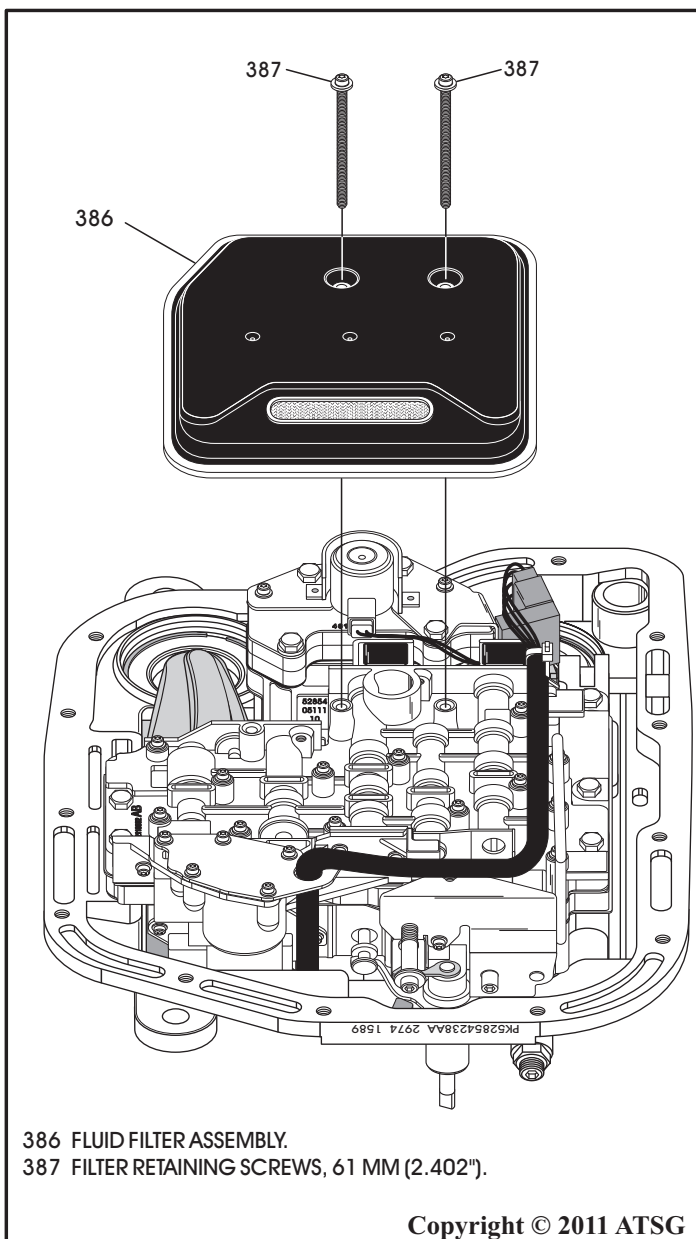

Figure 70
25. Remove and discard the fluid filter assembly, as shown in Figure 70.